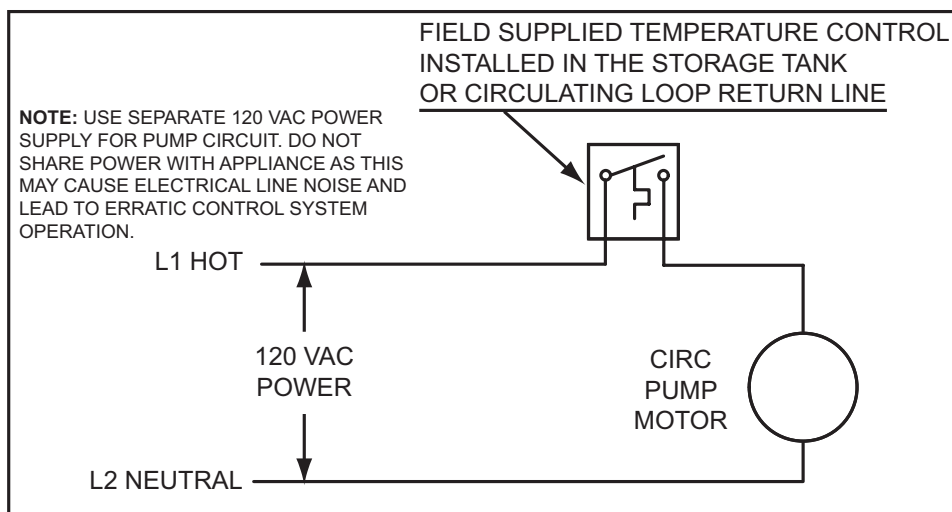

Figure 66. Recirculating Loop with Storage Tank or Building Recirculation
- 6. If a pump is being installed between a water heater and storage tank or on a building recirculation loop wire according to *Figure 66* (page 77).
6. If a pump is being installed between a water heater and storage tank or on a building recirculation loop wire according to *Figure 66* (page 77).